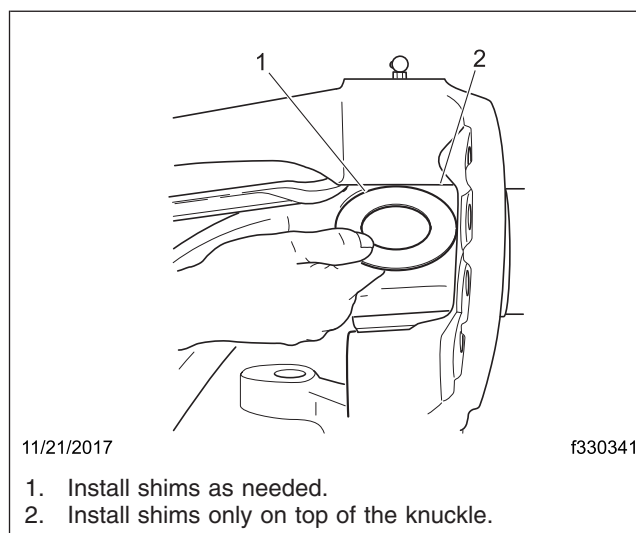

Fig. 18, Installing Shims
23. Pre-adjust knuckle vertical play by wedging the steering knuckle up and filling the gap at the top side of the knuckle with shim(s). See Fig. 18.